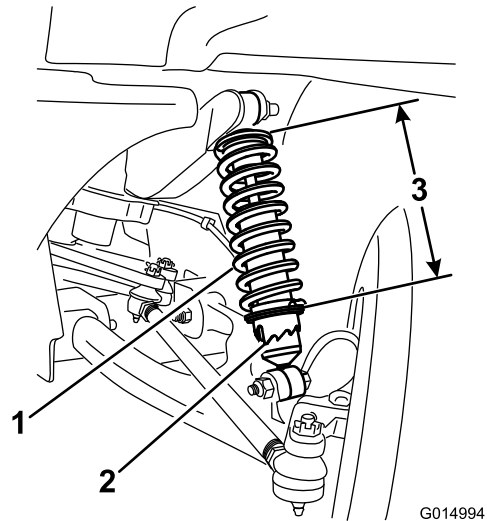

Figure 31
- A. Using tool Toro6010, rotate the collar on the shock absorber to change the length of the spring (Figure 31).